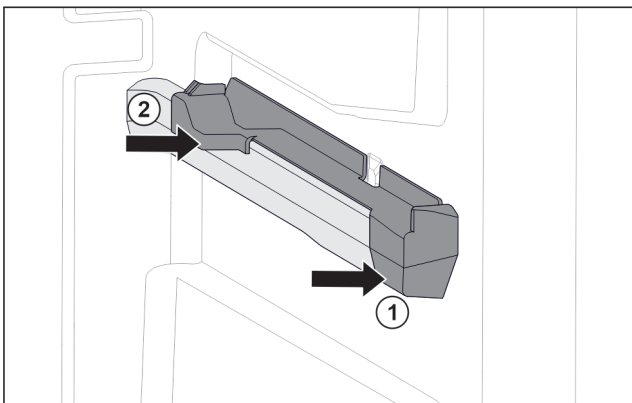

Fig. 114 Attachment on the right moulded rib
- ▶ Position attachment on moulded rib at the front. Fig. 114 (1)
- ▶ Press on attachment at the back. Fig. 114 (2)